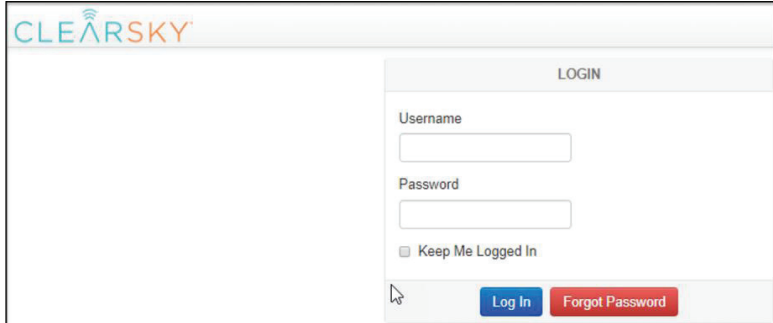

Figure 5
20. Log into ClearSky (<https://clearsky.mcneiluscompanies.com>) See Figure 5. If an account needs to be created contact ClearSky support (clearskysupport@oshkoshcorp.com).